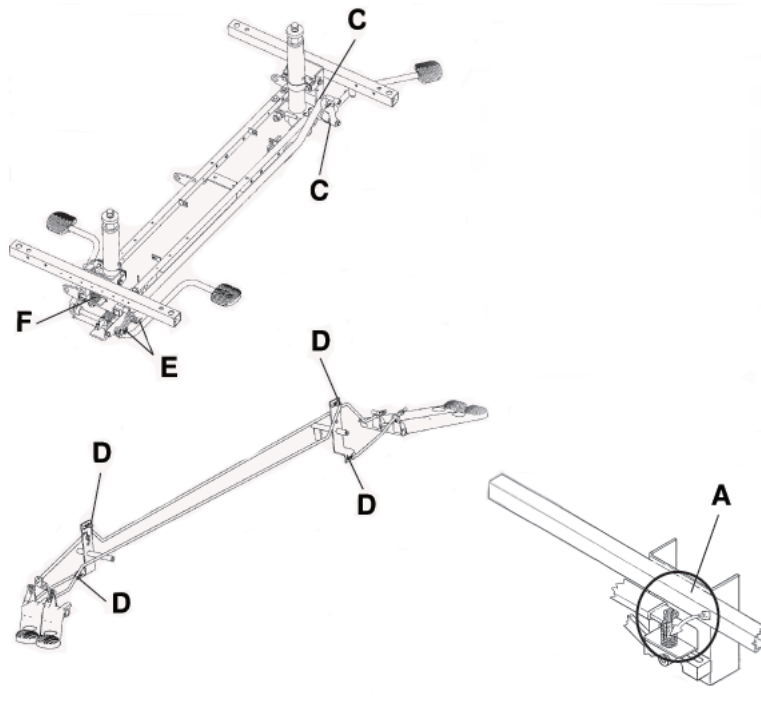

Figure 7 – Base lubrication
1. Using MPG-2 grease, lubricate the adjuster rod (A) (Figure 7).